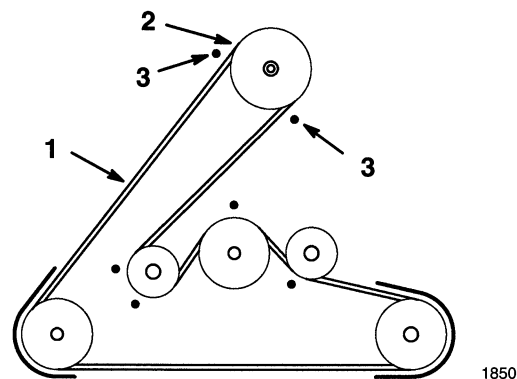

Figure 4
3. Install mower belt onto the lower engine pulley (Fig. 4). If you are careful, you can flex the belt guide(s) just far enough away from the pulley to install the belt. If it is too difficult to install the belt, loosen the bolts and nuts securing the belt guides.